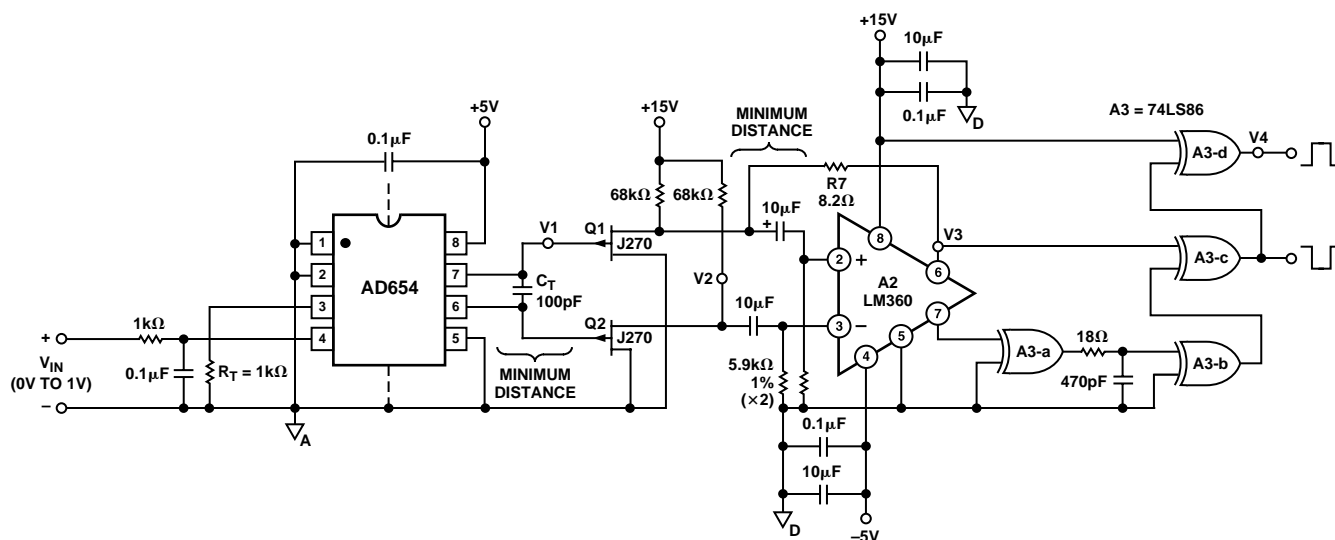

Figure 13. 2 MHz, Frequency Doubling V/F
Figure 13 illustrates this with a circuit offering 2 MHz full scale. In this circuit the AD654 is operated at a full scale (FS) of 1 mA, with a C_T of 100 pF. This achieves a basic device FS frequency of 1 MHz across C_T . The P channel JFETs, Q1 and Q2, buffer the differential timing capacitor waveforms to a low impedance level where the push-pull signal is then ac coupled to the high speed comparator A2. Hysteresis is used, via R7, for nonambiguous switching and to eliminate the oscillations which would otherwise occur at low frequencies.
The net result of this is a very high speed circuit which does not compromise the AD654 dynamic range. This is a result of the FET buffers typically having only a few pA of bias current. The high end dynamic range is limited, however, by parasitic package and layout capacitances in shunt with C_T , as well as those from each node to ac ground. Minimizing the lead length between A2-6/A2-7 and Q1/Q2 in PC layout will help. A ground plane will also help stability. Figure 14 shows the waveforms V1-V4 found at the respective points shown in Figure 13.